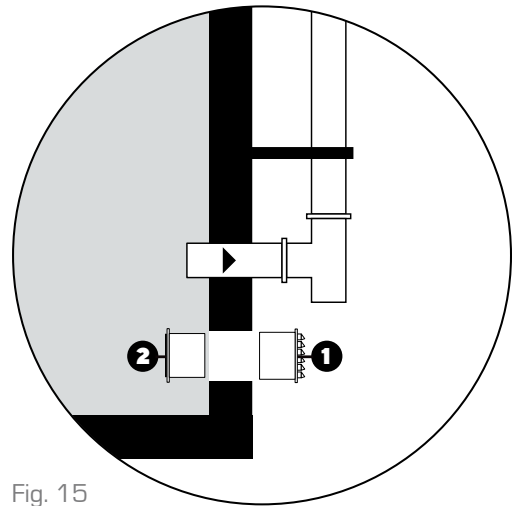

Fig. 15
3. Mount the expandable vent duct kit (fig. 15/16).